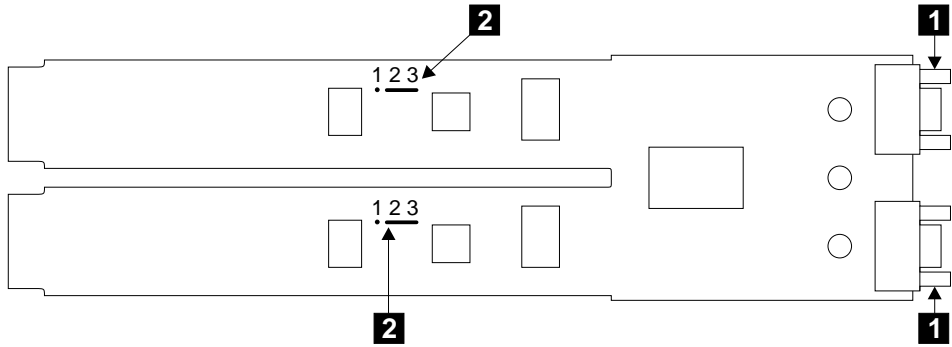

Figure 25. Bypass Card Set for Automatic Mode
5. Refer to Figure 25.
7. Note that, in Figure 25, the jumpers are set for **Automatic Mode**. That is, the jumpers **2** connect pins 2 and 3.
- a. Remove the jumpers, and install them into the required positions (see figures 25 and 26).